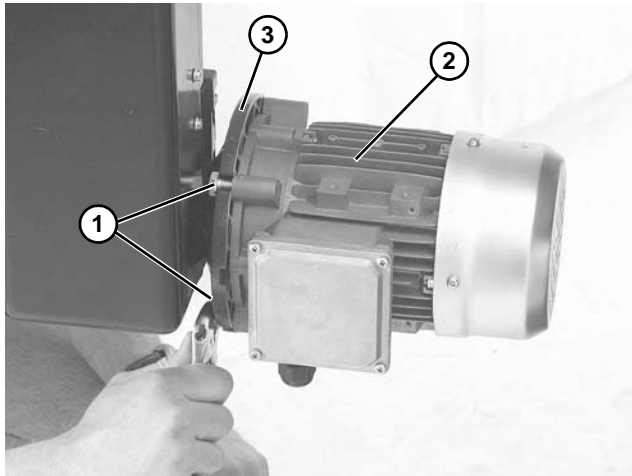

Figure 29
4. Remove four (4) screws (**Figure 29, item 1**). Detach motor (**Figure 29, item 2**) from gear reducer (**Figure 29, item 3**). Retain motor output shaft key.